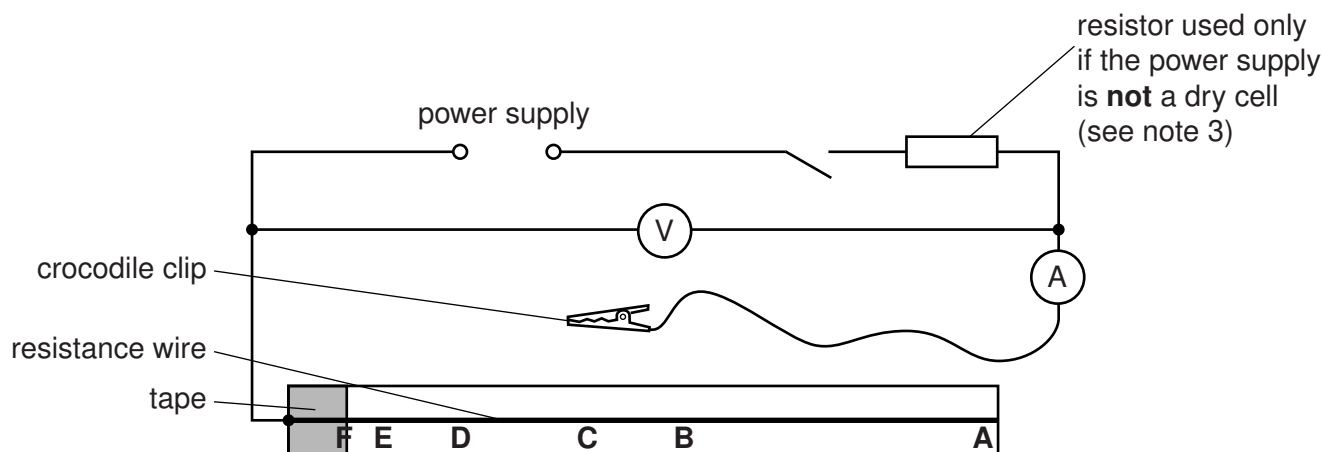

Fig. 3.1
- (vii) Sufficient leads to set up the circuit shown in Fig. 3.1.
1. The circuit is to be set up for candidates as shown in Fig. 3.1. The crocodile clip should **not** be connected to the resistance wire.
3. If the power supply is a power pack or lead acid cell, rather than a dry cell, a 1Ω , 3W resistor must be connected in series with the power supply, as shown in Fig. 3.1.